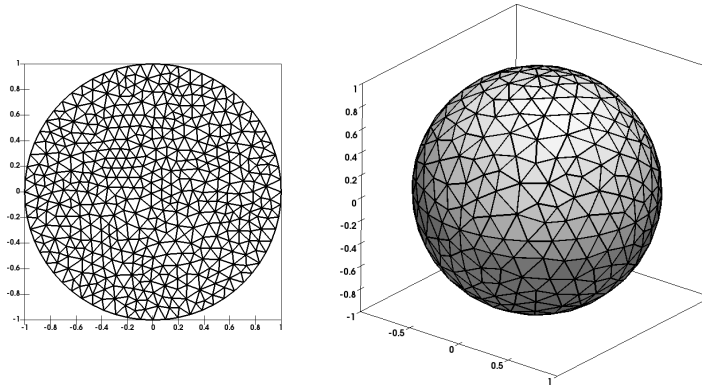

Figure 2: 2D and 3D mesh of a unit ball \mathcal{B}
Problem C.3. Now, write a FEniCS code that solves the problem C.1. in a given 2D mesh `circle.xml`, see Figure 2. Your code structure may look like the following:
where ρ_1 and ρ_2 are defined in (14). Run your code with 3D mesh `sphere.xml`, see Figure 2. Plot your solution at several time levels. Plot the mass losses in one figure. Discuss your solution.